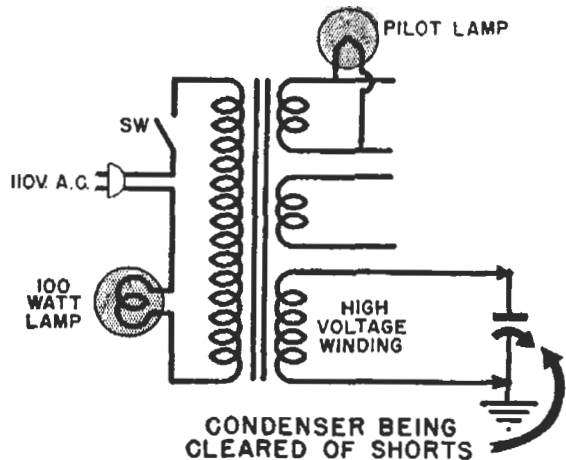

FIG. 4. A high voltage applied to the plates of a tuning condenser will burn out metal peelings from between the plates.
► Metal particles, or condensers which are difficult to reach, may require the more drastic treatment of burning out the dust and metal flakes with high voltage. Make up a circuit like that in Fig. 4, using a power transformer